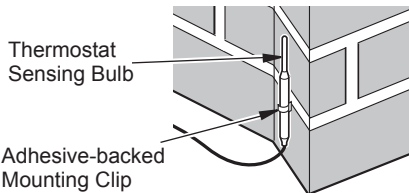

Figure 47 - Locating Thermostat Sensing Bulb on Masonry Fireplace
3. The thermostat sensing bulb may be located to the lower right front side of fireplace. Determine location of sensing bulb, but do not mount sensing bulb until step 4. If you have a masonry fireplace, see Figure 47 for location.